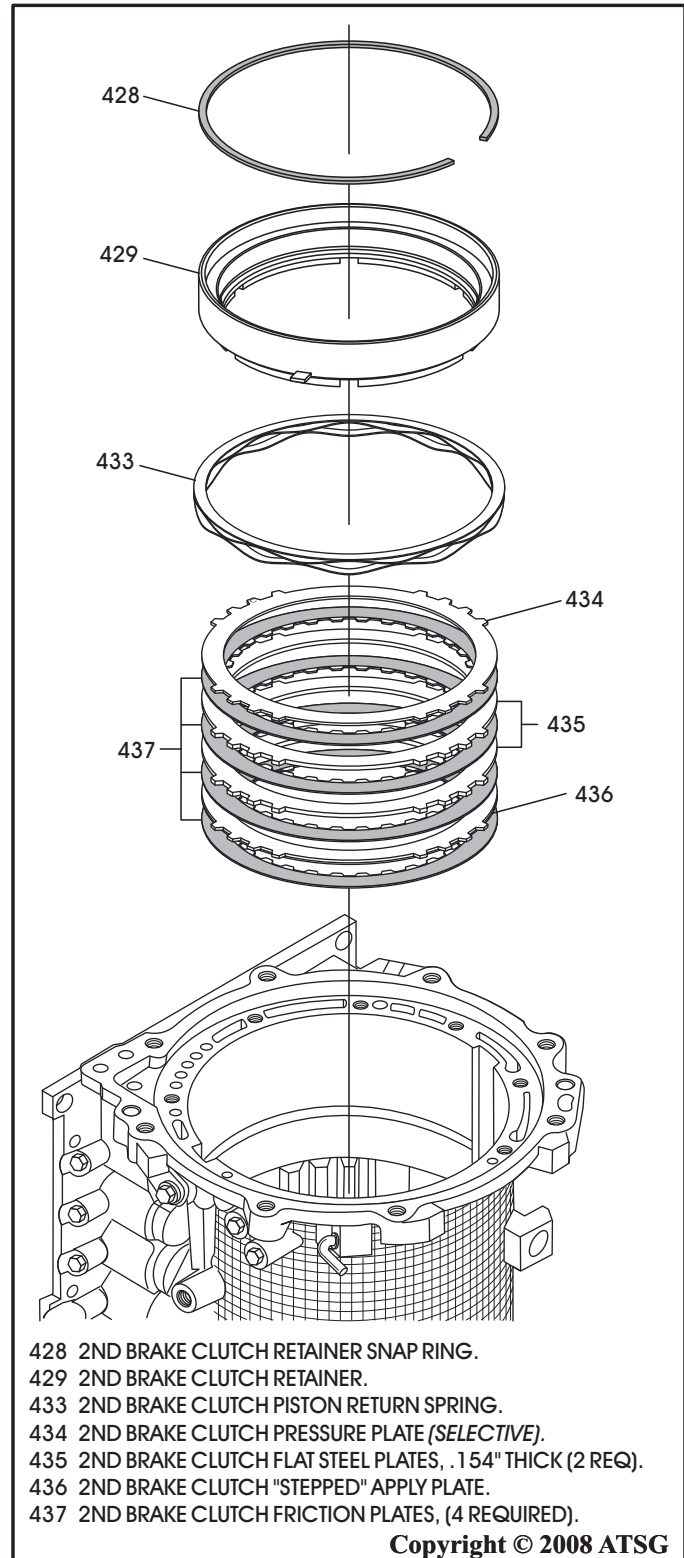

Figure 198
35. Install the 2-4 brake clutch plates, beginning with a friction plate and alternating with steel plates, as shown in Figure 198.
36. Install selective 2-4 brake clutch apply plate, as shown in Figure 198.
37. Install the 2-4 brake clutch piston return spring, as shown in Figure 198.
38. Install 2-4 brake retainer and piston assembly, as shown in Figure 198.
39. Install the 2-4 brake clutch retainer snap ring, as shown in Figure 198.
43. Now, remove the complete 2-4 brake clutch pack, using Figure 198 as a guide.